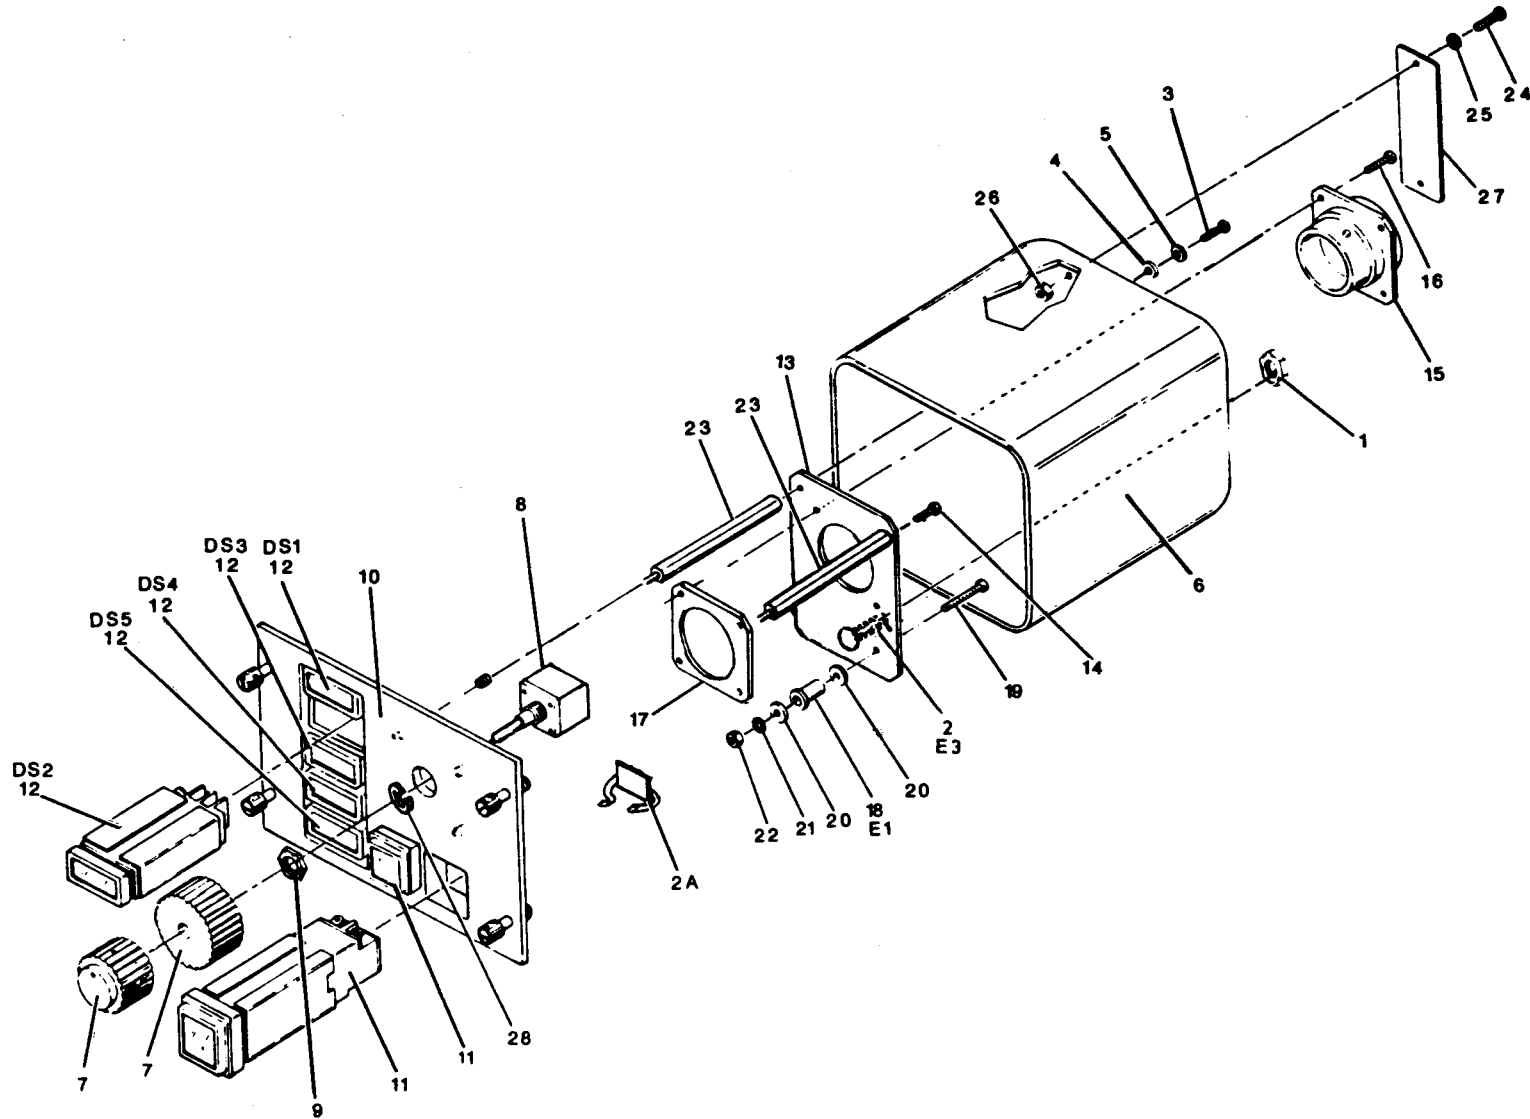
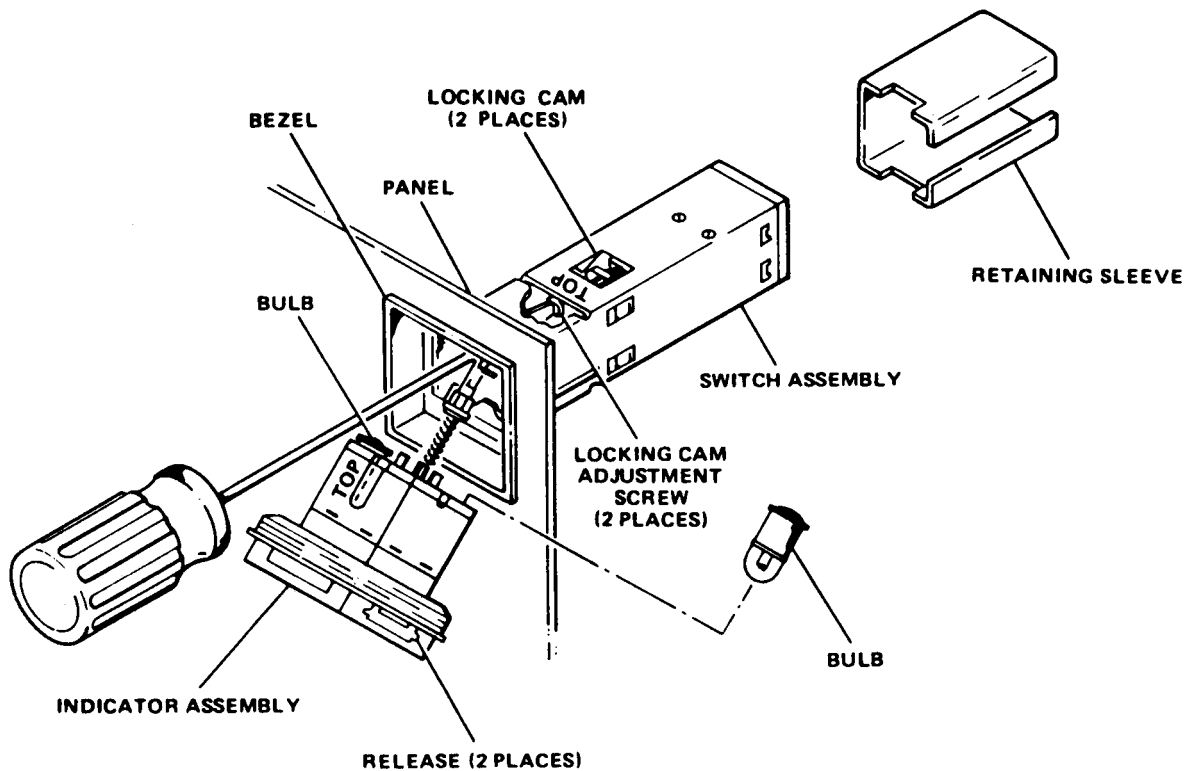
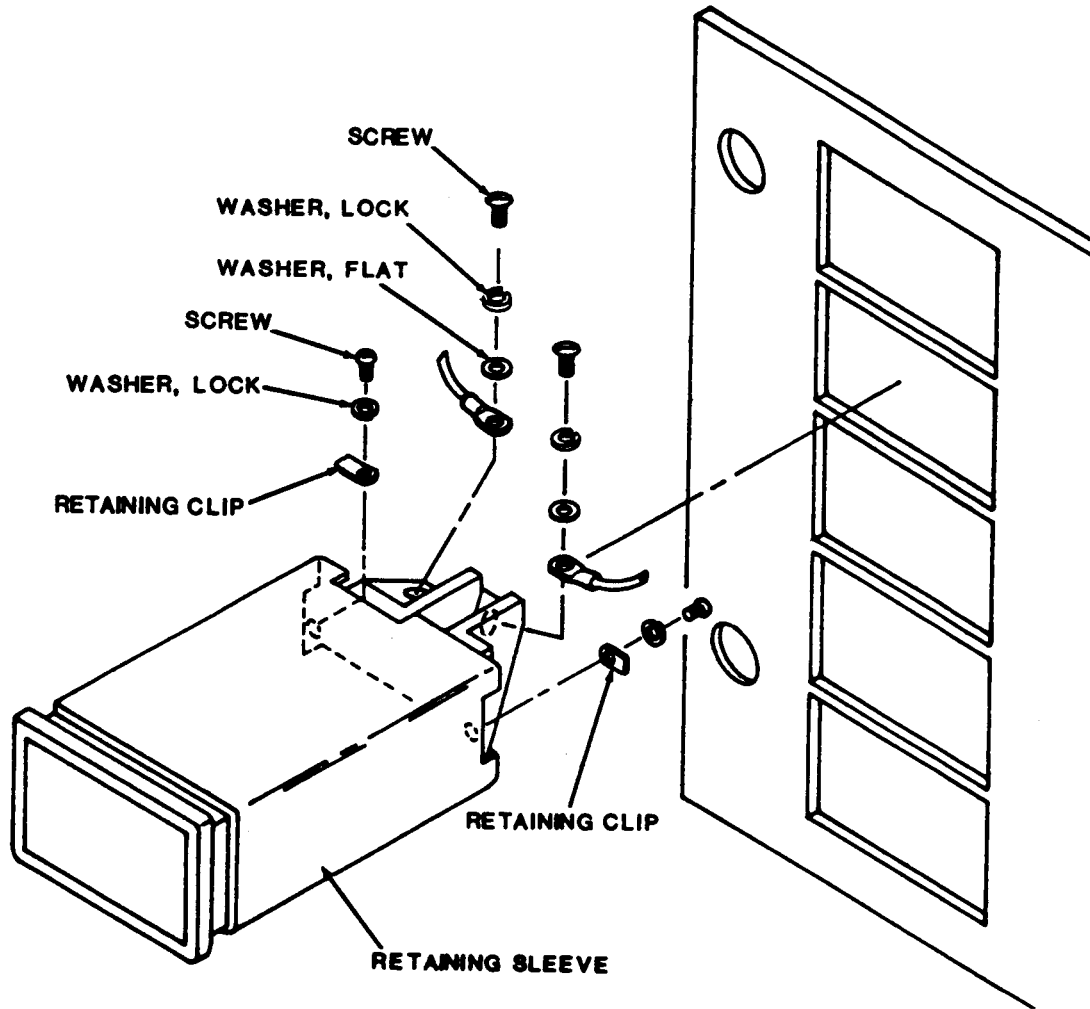
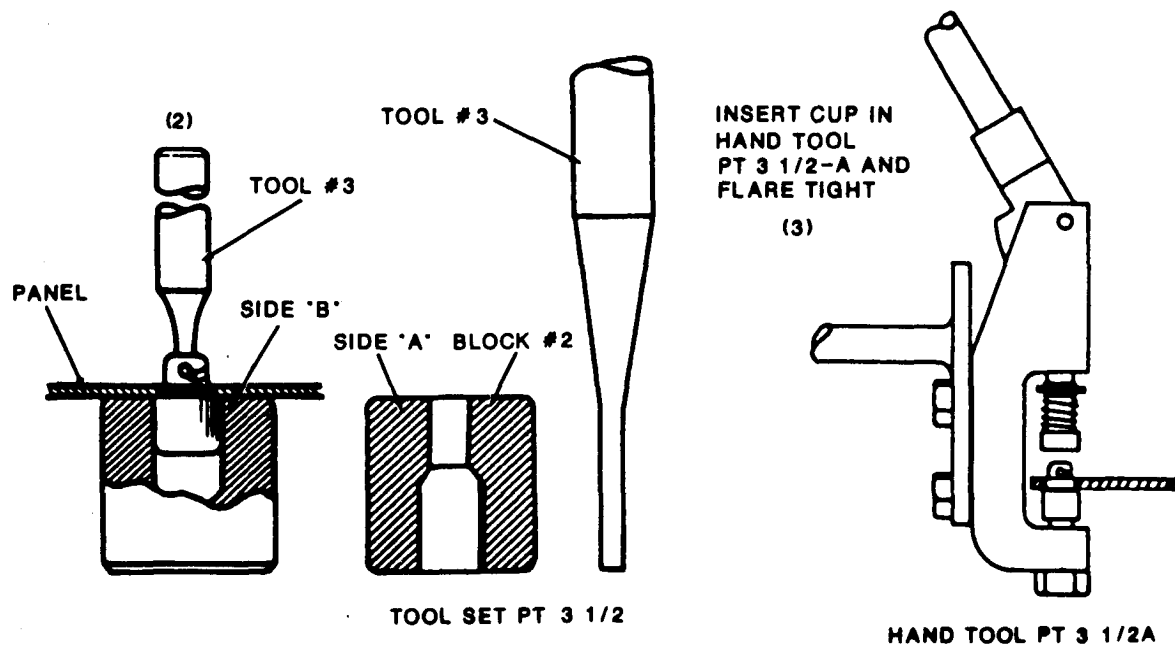

Figure 5-9. ECM Panel Indicator Component Locations
Figure 5-10. Switch/Indicator Replacement
Figure 5-11. Indicator Replacement
Figure 5-12. Fastener Removal and Installation
- (1) Check for cracked or broken ejectors.
- (2) Check for cracked circuit card.
- (3) Check for loose or damaged shields or heat sinks.
- (4) Check for loose, broken, or damaged printed wiring traces
- (5) Check for loose or damaged connectors
- (6) Check for discolored, burned, or broken wiring straps.
- (7) Check for cracked, discolored, or burned component insulator pads.
- (8) Check for burned or broken resistors, diodes, transistors, and ICS.
- (9) Check for leaking, bulging, cracked or burned capacitors or inductors.
- (10) Replace CCA in accordance with paragraph 5-12g.
**5-11. ECM Panel Indicator Procedures.** ECM panel indicator maintenance consists of removing the enclosure and, if required, repairing the unit using the following procedures. Figure 5-9 shows ECM panel indicator component locations. Procedures reference components by parenthetical numbers keyed to figure 5-9.
- a. Enclosure Removal. Refer to figure 5-9 and proceed as follows:
- (1) At the rear of the unit, remove the nut (1) from terminal stud E3 (2).
(2) Remove the two screws (3), flat washers (4), and lock washers (5) that secure the enclosure (6) to the chassis stand off (23).
(3) Slide the enclosure (6) backward, off the chassis.
b. Potentiometer Removal and Replacement. Refer to figure 5-9 and proceed as follows:
(1) Remove enclosure (6) in accordance with paragraph 5-11a.
(2) Loosen the setscrews and remove both knobs (7) from the potentiometer (8).
(3) Remove the collar nut (9) and lock washer (28) that secure the potentiometer (8) to the front panel (10). Remove the potentiometer.
(4) Tag the wires to identify potentiometer (8) connections.
(5) Unsolder the wires from the potentiometer (8).
(6) Solder the wires to the replacement potentiometer (8) as tagged.
(7) Remove the collar nut (9) and lock washer (28) from the replacement potentiometer. Slide the replacement potentiometer into the front panel (10) and secure with the collar nut (9) and lock washer (28).
(8) With the potentiometer in the fully counterclockwise position install both knobs (7) and secure the indicator with the setscrews.
(9) Replace enclosure (6) in accordance with paragraph 5-11, step 1.
(10) Refer to section V of this chapter.
c. Switch/Indicator Removal and Replacement. Refer to figure 5-9 and figure 5-10, and proceed as follows:
(2) Grasp the edges of the lens assembly of the switch/indicator (11) to be replaced and pull forward about one inch (see figure 5-10). Allow the lens assembly to hang down on the front panel to expose the locking cam adjustment screws.
(3) Use a screwdriver to turn the two locking cam adjustment screws counterclockwise (CCW).
- (6) Unsolder wires from indicator/switch.